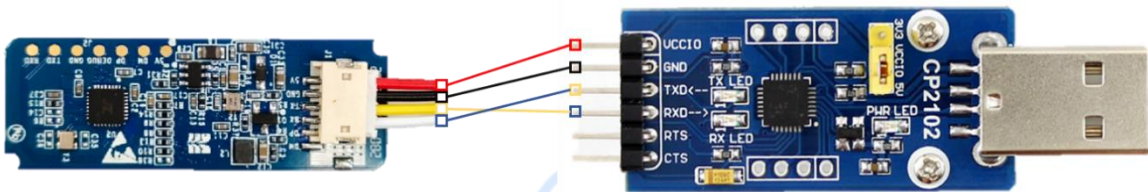

Figure 4-2 Example of connecting CS202_E to USB serial port
b) Connect CSP202TE to a USB serial port using cables, as shown in Figure 4-2.